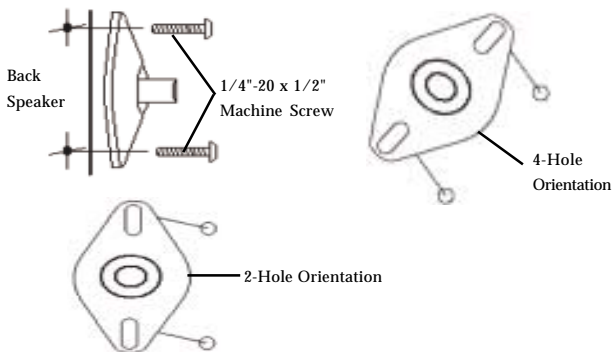

Figure 5
1. Find the best mounting configuration that matches your speaker enclosure. Four-hole mount patterns can be accommodated by positioning the speaker plate diagonally, see **Figure 5** on the next page.
2. Using the 1/4"-20 x 1/2" machine screws, install the speaker plate and secure the speaker enclosure, see **Figure 5** on the next page.